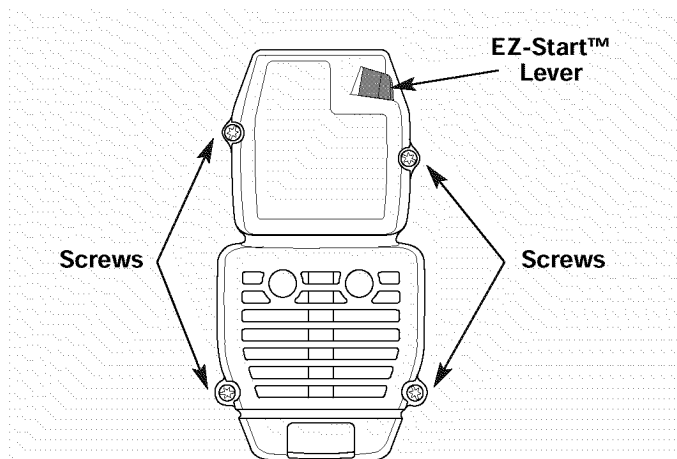

Fig. 27
1. Remove the four (4) screws securing the air filter/muffler cover (Fig. 27). Use a flat blade or T20 Torx bit screwdriver.
2. Insert the four (4) screws into the holes in the air filter/muffler cover (Fig. 27) and tighten. **Do not over tighten.**